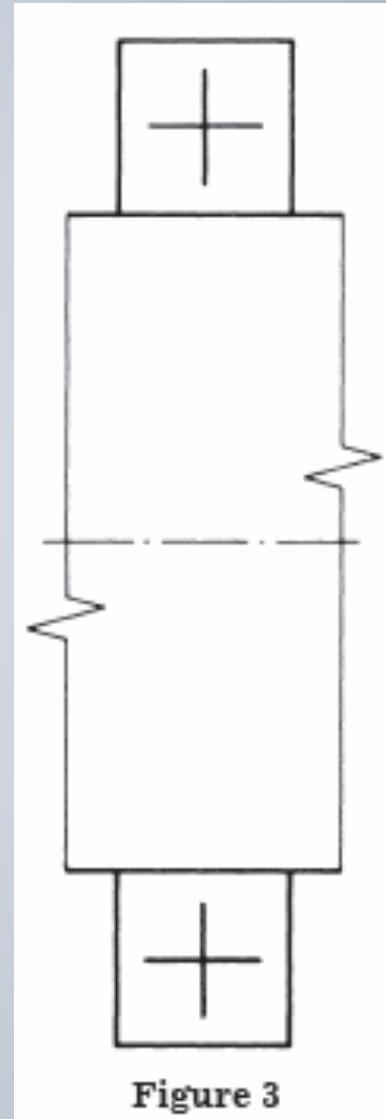

Figure 3
- This representation shall be used in the space on one or both sides of the axis (see for example Figure 3, for the case of a horizontal axis).